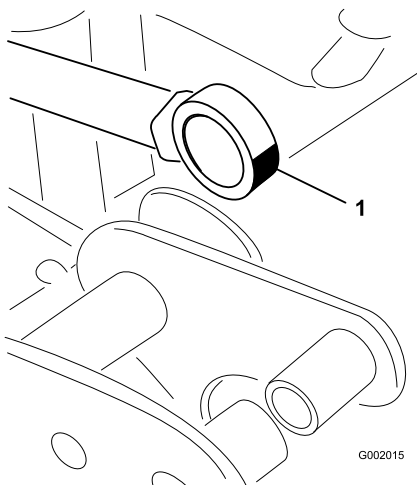

Figure 38
5. Manipulate the actuator rod bearing end and apply grease into the bearing (Figure 38).